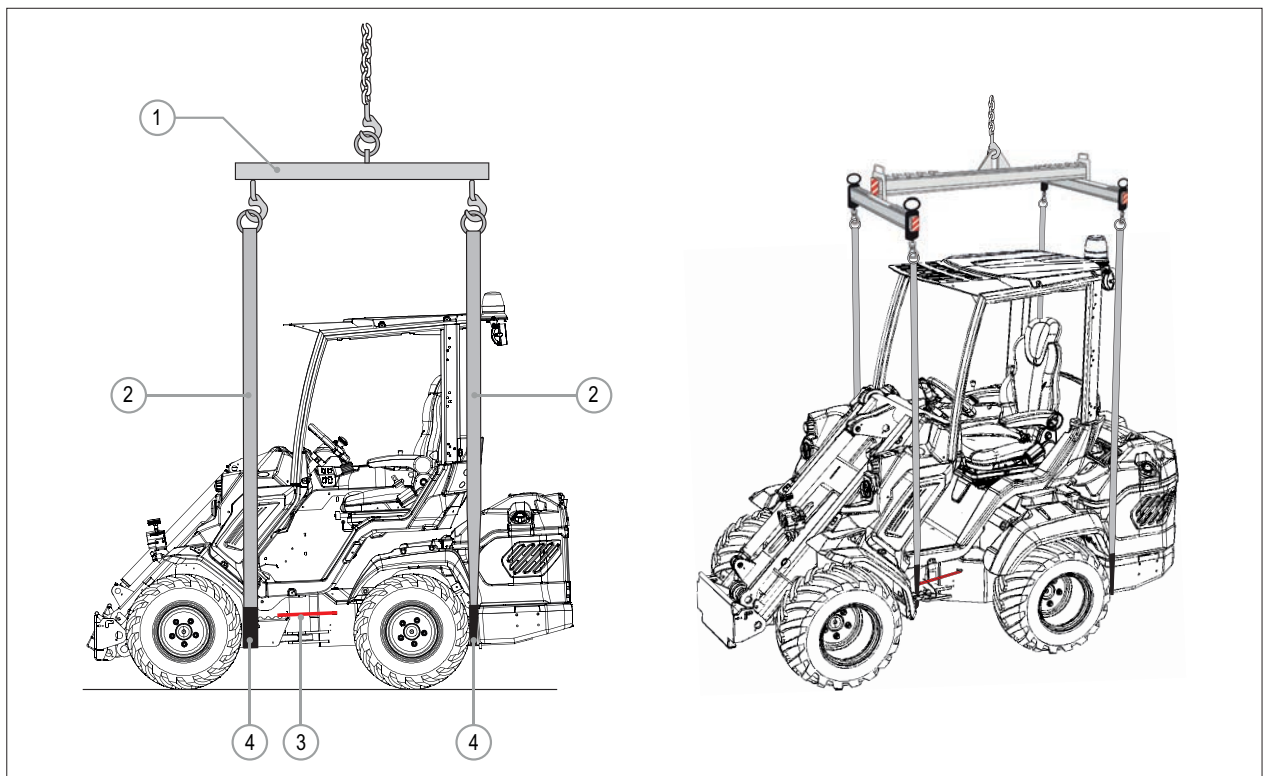

FIG. 21
- 2) Insert the steering lock bracket (**FIG. 21 - Rif. 3**) (**see par. 5.2.1**).
- 3) Use a lifting beam (**FIG. 21 - Rif. 1**) of adequate capacity and in accordance with the use.
- 4) Pass the lifting straps (**FIG. 21 - Rif. 2**) under the machine as shown in figure. Use sling antislip protector sleeves (**FIG. 21 - Rif. 4**) to avoid damages to the straps. Don't use the tie-down points of the machine to fix the straps. To prevent machine damage when lifting, make sure that the lifting straps don't touch the machine sides in any point.